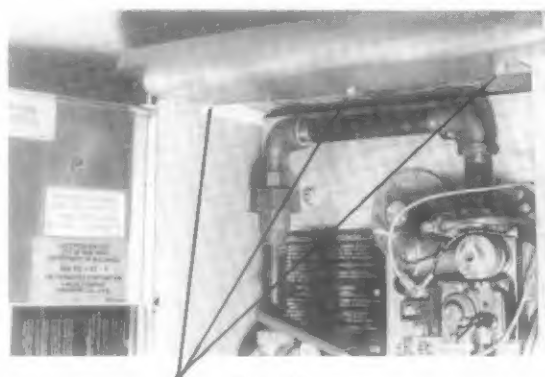

Fig. 14
- 4) Remove the screws from the cowl and lift up and off the fryer. See Figures 14 and 15.